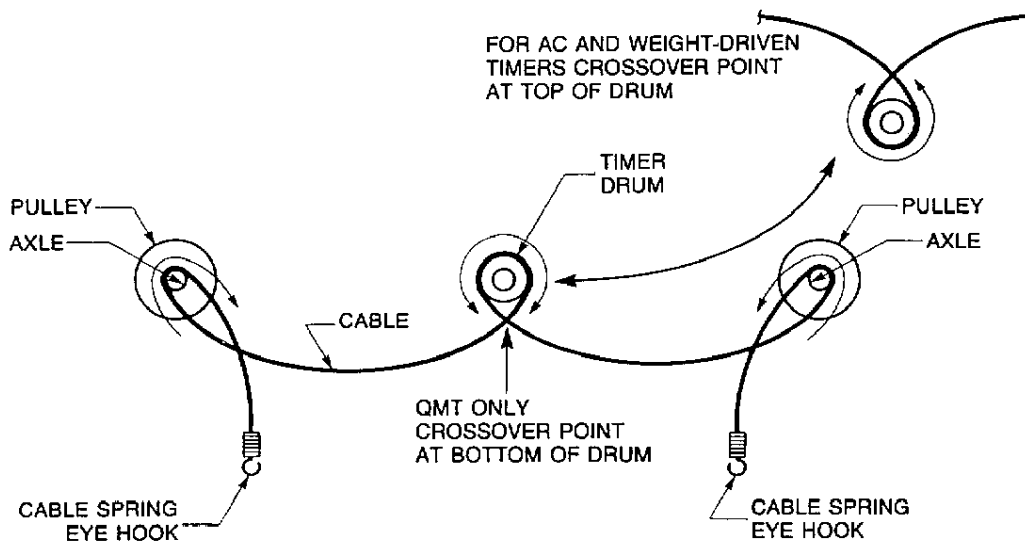

Figure 9. Wrapping the Drum
Step 5. Wrap cable around Timer's drum as shown in Figure 9.